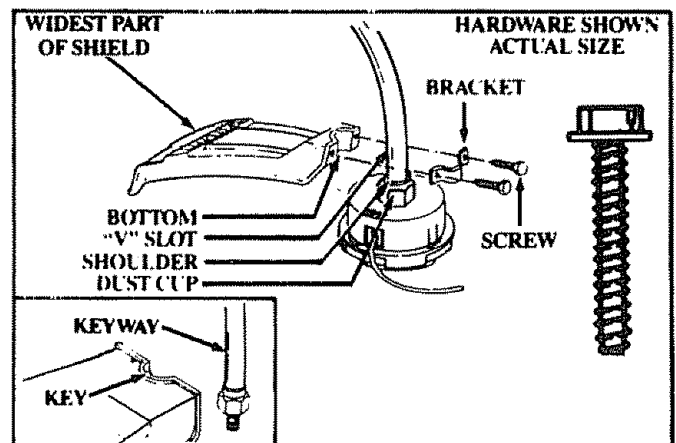

Figure 10
#### 5. Shield – Figure 10
- Match the Key (Raised area) on the Shield with the Keyway ("V" slot) on the Drive Shaft Housing. Figure 10 (inset).
- Install the Shield retaining Bracket and Screws as shown in Figure 10.